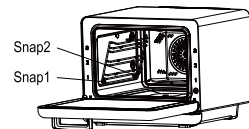
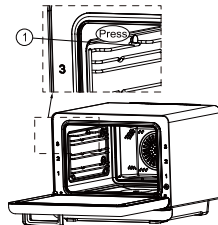

Figure1
Figure2
5. Shelf: Press the Shelf at Position 1 (see Figure 2) until the shelf detaches from the positioning screws. Tilt it at a certain angle, then lift it upward as shown in Figure 1 to remove and detach the shelf. To reinstall the shelf: first align the two sides of the shelf's lower end with Fastener 1 and Fastener 2 (per Figure 1) and insert them into place, then fasten the upper end of the shelf onto the positioning screws.